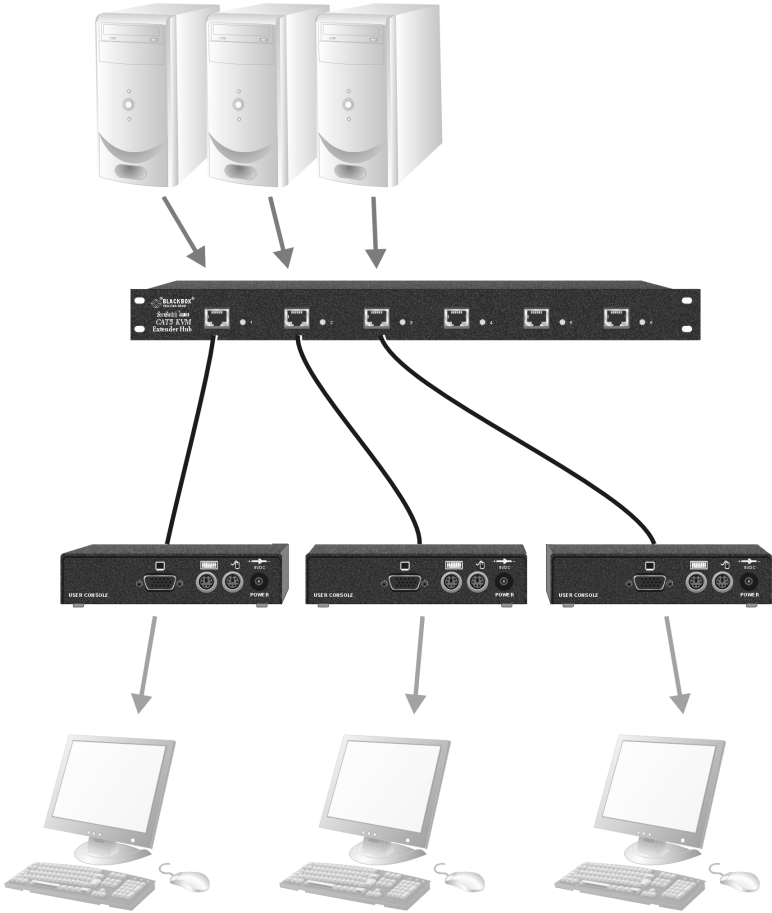

Figure 10
- Individually, connecting a single-head Remote unit to each port (see Figure 10)